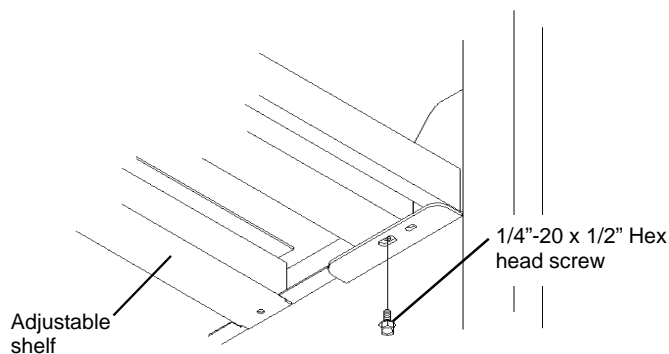

Figure 7
3. Secure the Shelf in position by installing four 1/4"-20 x 1/2" Hex head self tapping screws, one into each corner of the Shelf. See **Figure 7**.